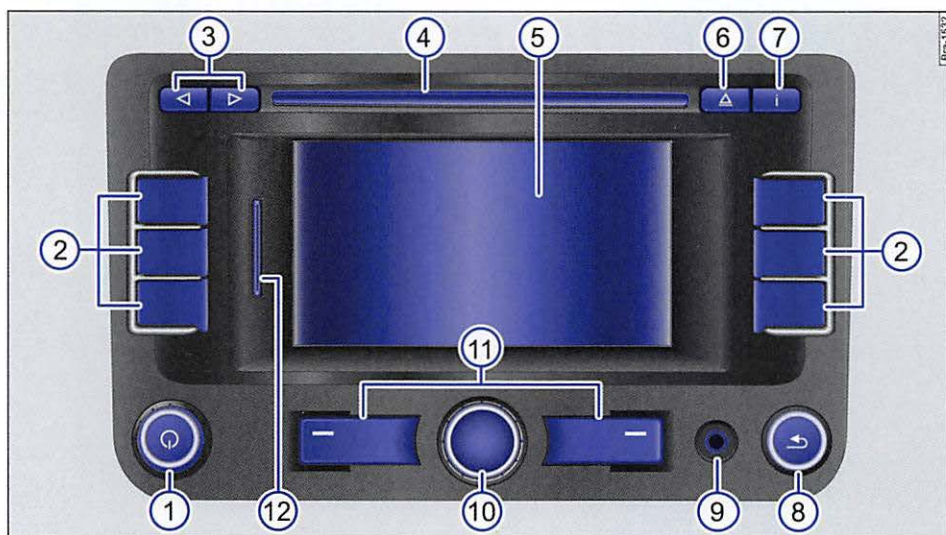
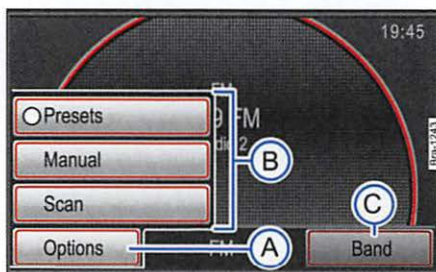

Fig. 1 Overview of the controls.
Fig. 2 RADIO main menu with pop-up window.
- Briefly press the rotary and push button  ⇒ fig. 1 to manually turn the device on or off.
Increase volume.	Turn the volume control  $\Rightarrow$ fig. 1 clockwise or press the corresponding button on the multi-function steering wheel $\Rightarrow$ booklet Owner's manual , chapter Vehicle Overview .
- **OR:** If available on the device, briefly press the **MUTE** $\Rightarrow$ fig. 1  or **PHONE** ¹⁾ device button.
The left rotary and push button $\Rightarrow$ fig. 1  is designated as Volume control  or On-Off switch.
The center rotary and push button $\Rightarrow$ fig. 1  is designated as the **Tuning knob**.
Underneath the screen are two unlabeled device buttons $\Rightarrow$ fig. 1 . Operation and function correspond to the respective function buttons $\Rightarrow$ fig. 2  and  shown on the screen above.